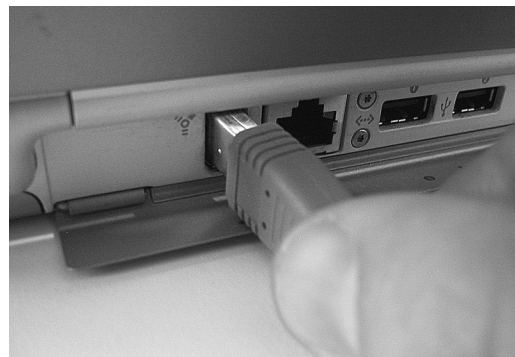

Figure 3-1: Connecting the 896HD to the computer.
- 1 Plug one end of the 896HD FireWire cable (included) into the FireWire socket on the computer as shown below in Figure 3-1.
- 2 Plug the other end of the FireWire cable into the 896HD I/O as shown below in Figure 3-1.